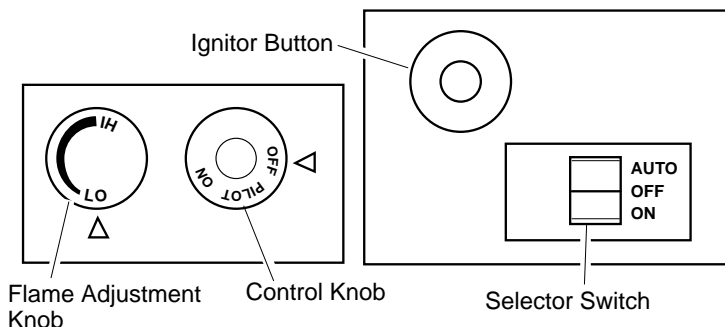

Figure 25 - Control Knob and Ignitor Button Location (Shown as Supplied, No Control Options)
5. Wait five (5) minutes to clear out any gas. Then smell for gas, including near the floor. If you smell gas, **STOP!** Follow "B" in the safety information. If you don't smell gas, go to the next step.
6. Press in and turn control knob counterclockwise  to the PILOT position. Press in control knob for five (5) seconds (see Figure 25).